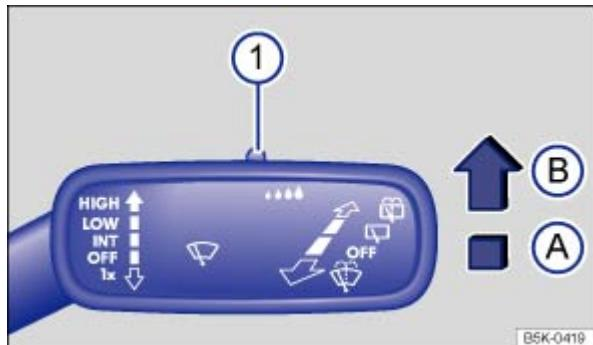

Fig. 94 Windshield wiper lever: Adjusting the rain sensor ① (if equipped).
The rain sensor's sensitivity can be adjusted manually ⇒ Fig. 94① ⇒ .